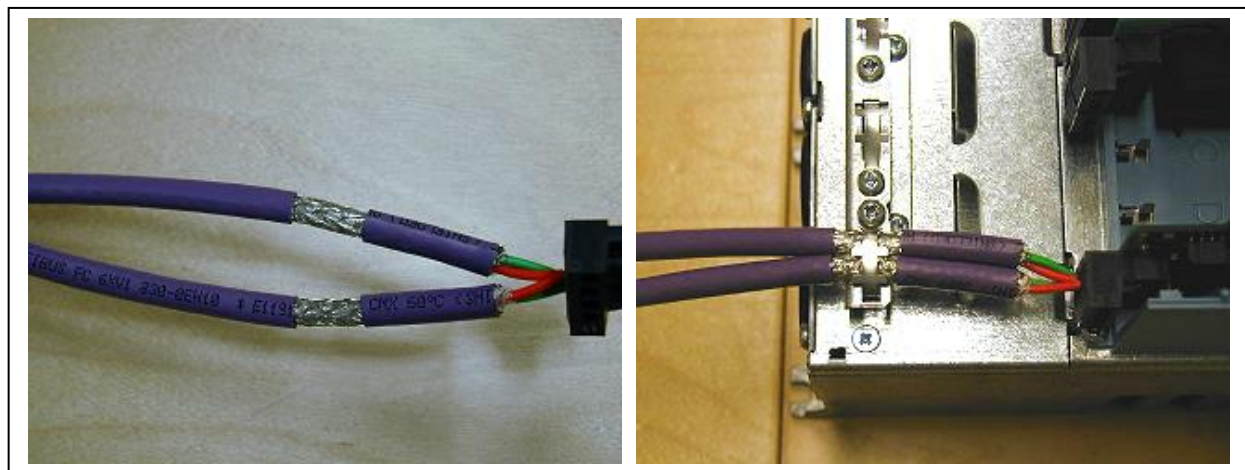

Figure 4-4.
- Strip about 5 cm of the CANopen cable in the same way as shown in Figure 4-4 but **cut off the grey cable shield**.